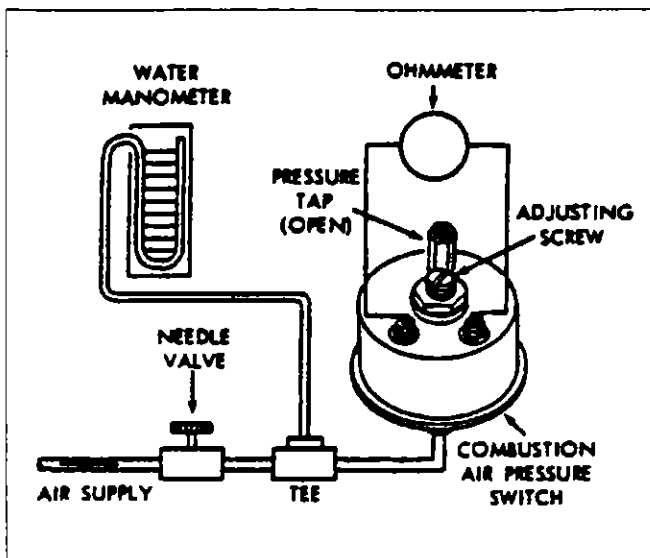

Figure 13-24. Test Set-Up for Combustion Air Pressure Switch
a. Discard all rubber parts such as grommets, gaskets, etc. These items should always be replaced at overhaul. Also discard the rope gasket (85).
d. The combustion air pressure switch (41) must respond to delicate pressure changes and should always be checked and/or replaced at overhaul. (Refer to Paragraph 13-113, c, and Figure 13-24.)
1. Connect an adjustable air pressure line that can be controlled in a range of zero to 5.0 psi (maximum) of water to the switch opening with a water manometer and needle valve in the line ahead of switch. Switch must be tested in 45-degree position as shown in Figure 13-24.